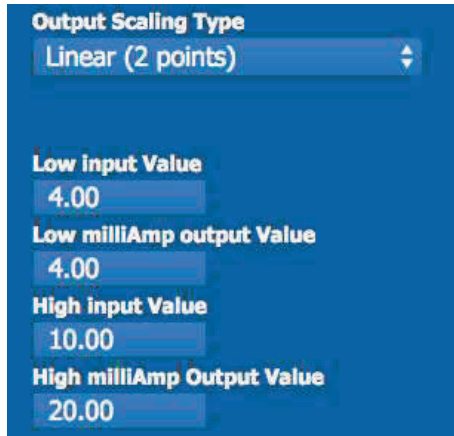

Figure 7-6– In this example for linear (2 points) scaling a pH probe value of pH 4 outputs 4 mA and pH 10 outputs 20 mA.
- The 4-20 mA output is scaled so that the process value maps linearly into any range of 4-20 mA output. Figure 7-6 shows the example of a pH probe for which a pH value of 4.0 outputs a current of 4 mA and a pH value of 10 outputs a current of 20 mA. This scaling is useful for expanding a limited range in process values to fit the entire 4-20 mA range.